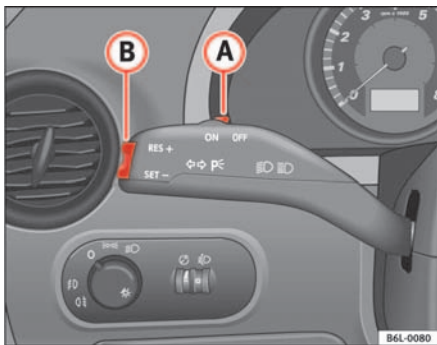

Fig. 98 Turn signal and main beam lever: Switch and rocker switch for CCS
- Push the switch ⇒ fig. 98 **B** to the left to **ON**.